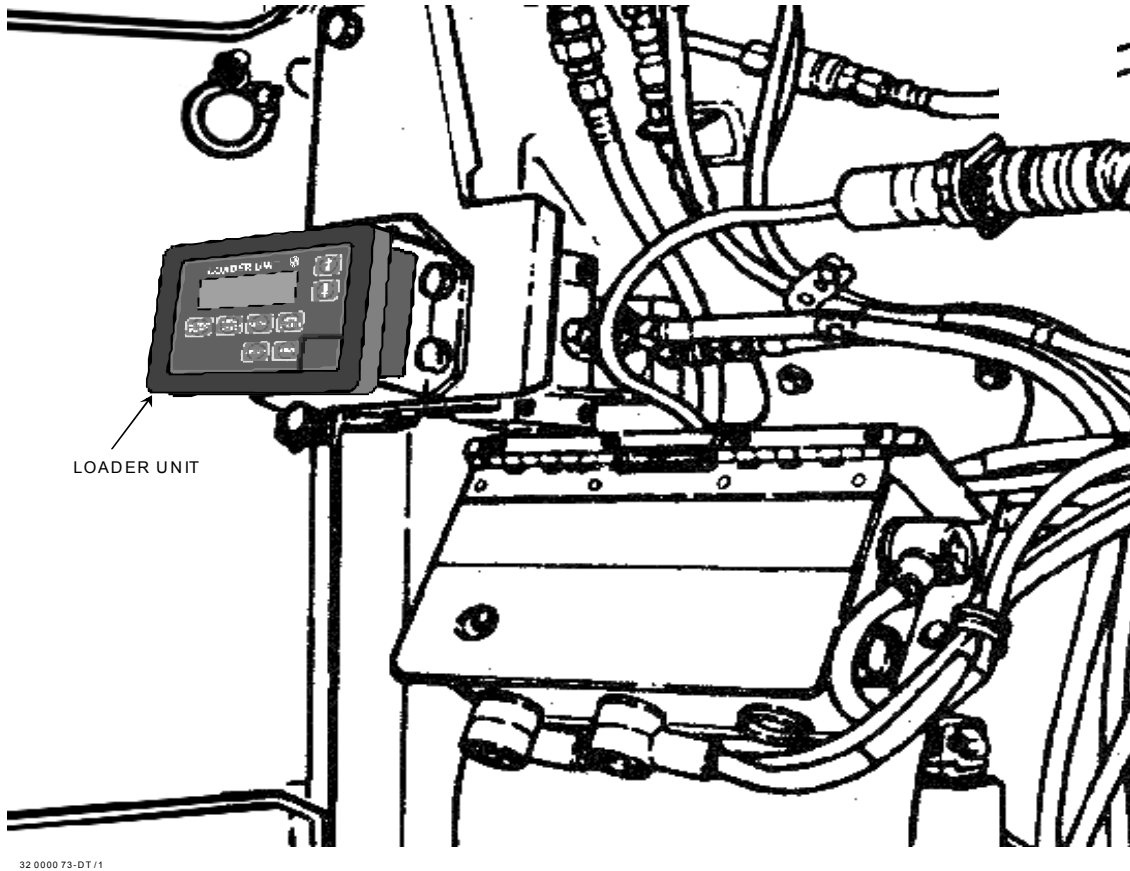

Figure 2-33. M1A1/M1A2 Loader Unit Mounting.
2.3.2.13 Loader Unit (LU).
- f. Mount the LU to the fastener tape. Ensure the unit is firmly seated. (See Figure 2-33.)